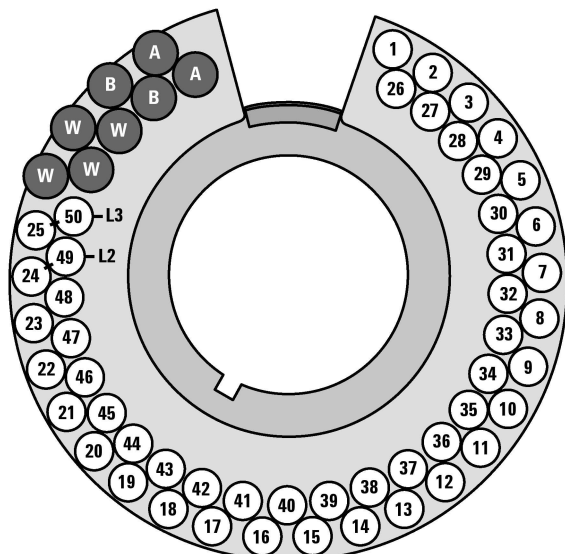

Figure 48 Turret vial locations
When loading vials for sandwich injections, refer to Figure 48 and note the following:
- 3 Place the solvent B vial (L3) in turret position **L3**. Refer to Figure 48 on page 107 for turret position information.